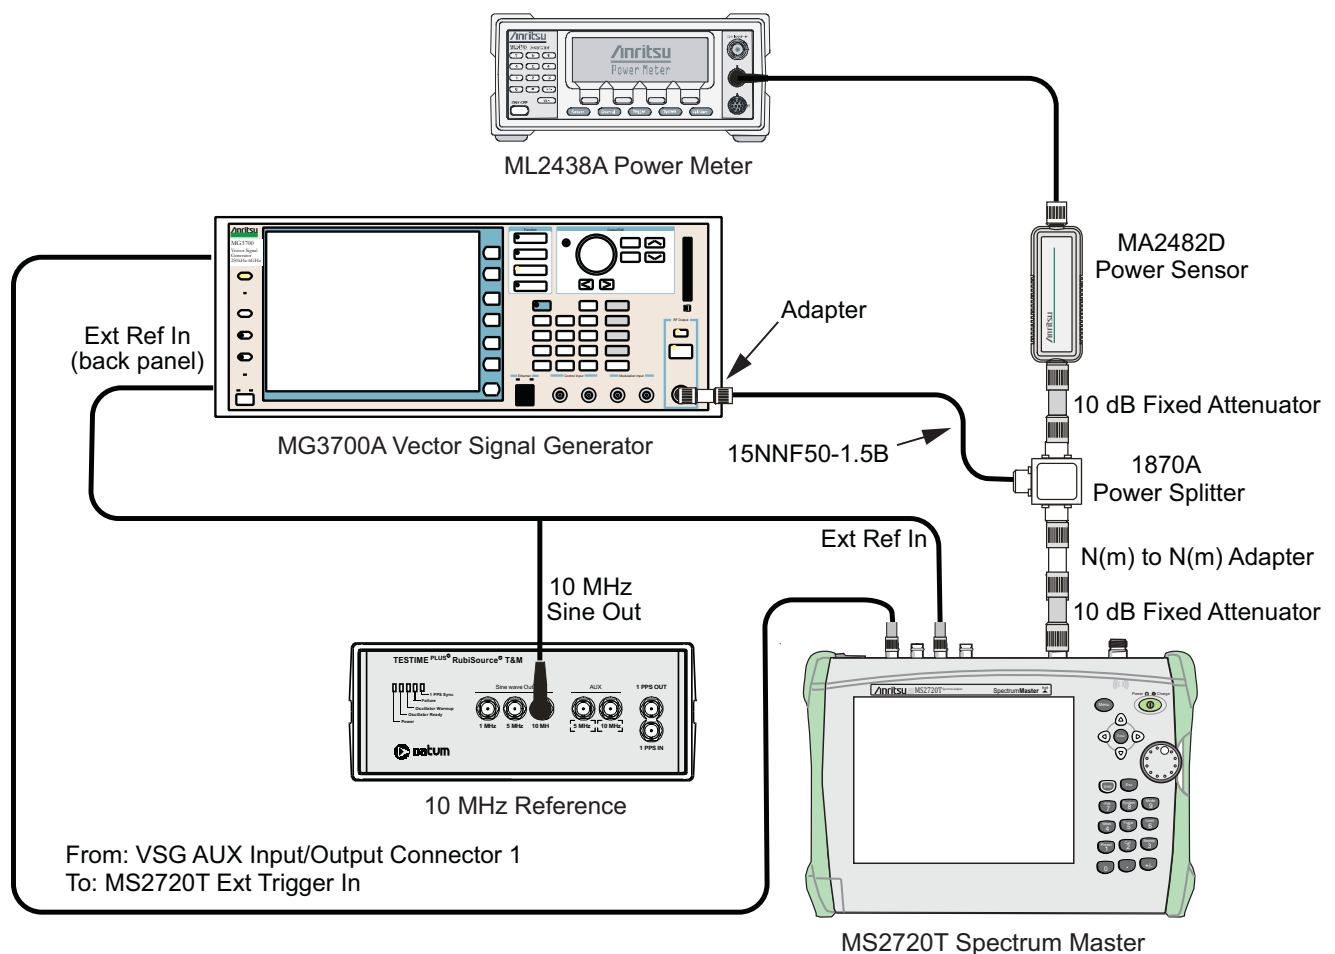

Figure 3-8. TDSCDMA Signal Analyzer Option Verification, Test Setup
2. Connect the equipment as shown in Figure 3-8.